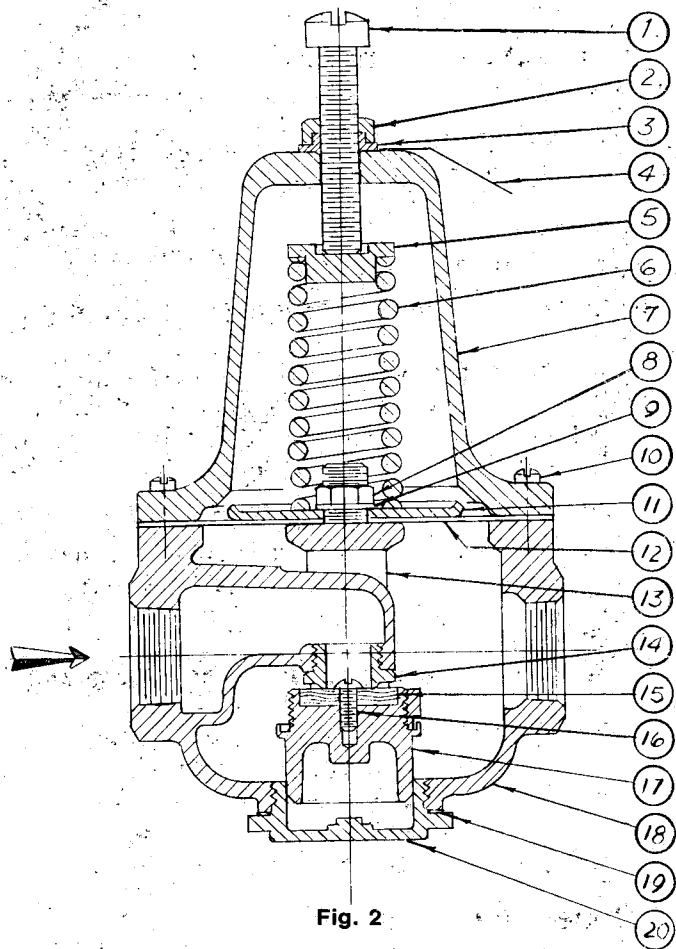

Fig. 2
- a. Loosen the Locknut, 2 Fig. 2, on the adjusting screw.
- b. Turn the Adjusting Screw, 1 Fig. 2, clockwise to increase the delivery pressure **(or)**
- c. Turn the Adjusting Screw, 1 Fig. 2, counterclockwise to decrease the delivery pressure.
- d. Retighten the Locknut, 2 Fig. 2.
d. Adjusting Spring, 6 Fig. 2, may have been tampered with, or broken.
- b. Adjusting Spring, 6 Fig. 2, may have been tampered with.
- d. Valve Diaphragm, 12 Fig. 2, may be broken.
- a. Relieve the compression from the Adjusting Spring, 6 Fig. 2.
- b. Remove Guide Cap, 20 Fig. 2.
- c. Remove Disc Holder, 17 Fig. 2
- d. Remove Spring Chamber, 7 Fig. 2
- e. Remove Stem Yoke Nut, 8 Fig. 2
5. When ordering parts, refer to the parts list, Fig. 2. Order parts by part name, valve size, and include the Item Number from the Name Plate, 4 Fig. 2.